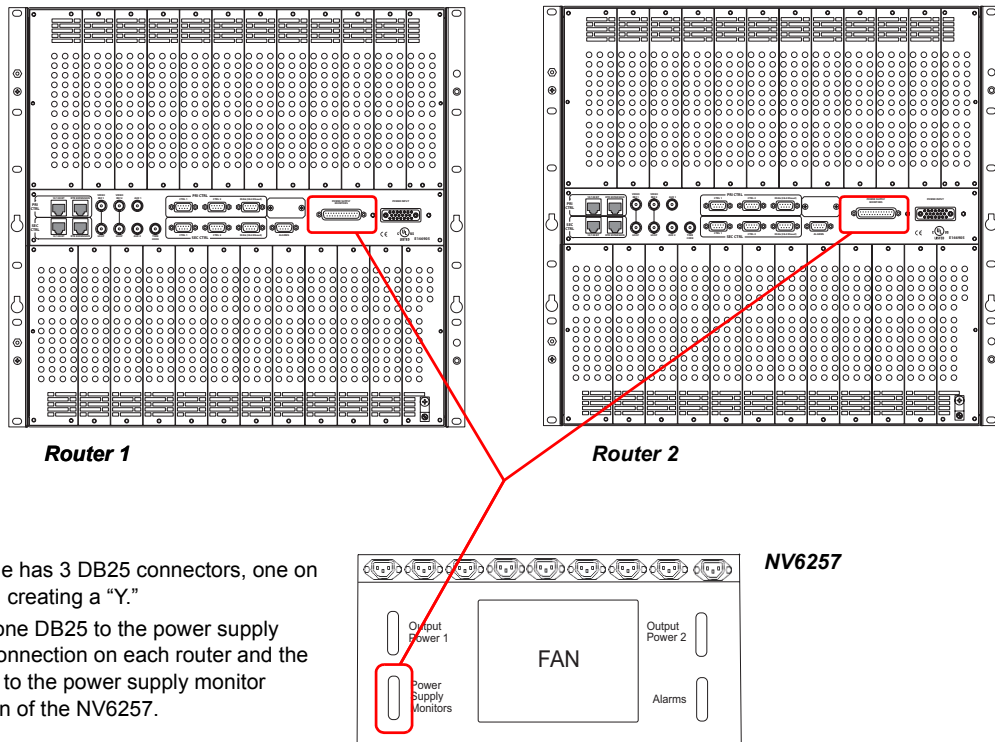

Figure 3-4. “Y” Cable Connections Between Two Routers and a Single NV6257
- 7 Facing the rear of the **NV6257**, connect one end of the monitor “Y” cable to ‘Power Supply Monitors’, as shown in Figure 3-4.
- 8 Facing the rear of the **first router** (router 1), connect one of the two remaining monitor “Y” cable connectors to ‘Power Supply Monitor’, as shown in Figure 3-4.
- 9 Facing the rear of the **second router** (router 2), connect the remaining monitor “Y” cable connector to ‘Power Supply Monitor’, as shown in Figure 3-4.